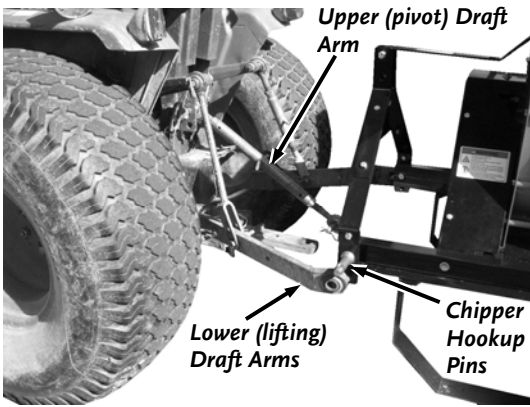

Figure 11
1. Back the Tractor to the Chipper and position the Lower Draft Arms near the Chipper Hookup Pins (**Figure 11**).